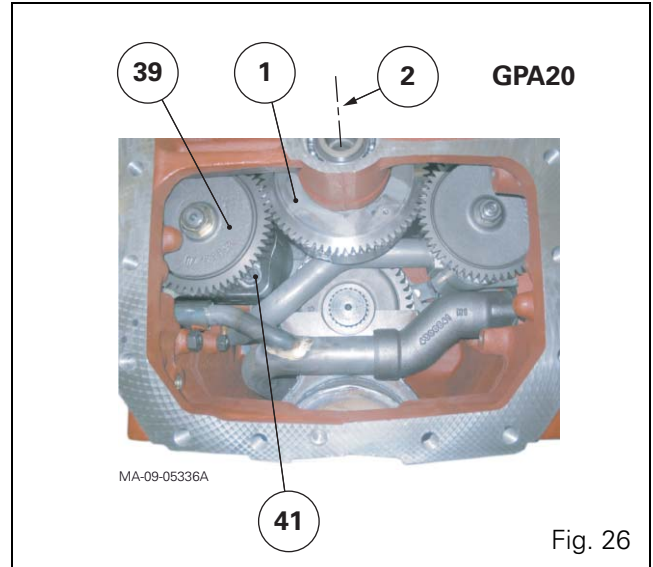
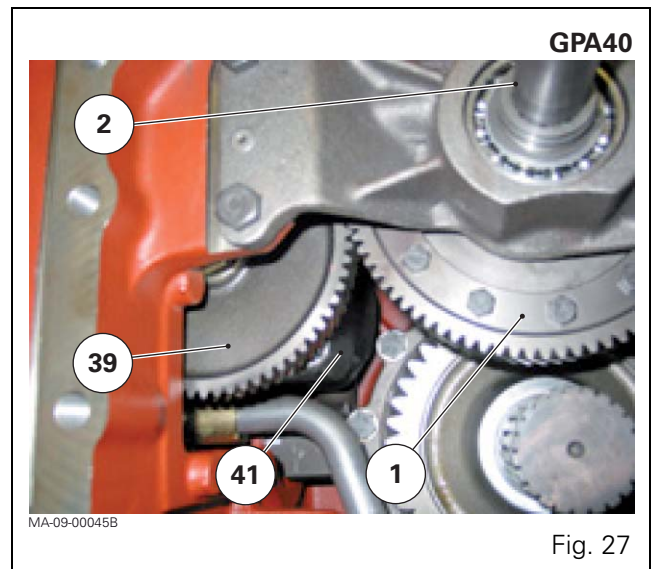

Fig. 26
Fig. 27
- the PTO clutch housing teeth (1) (GPA20 and GPA40) (Fig. 26, Fig. 27).
NOTE: The helical teeth of the gear (39) (GPA20 and GPA40) and its connected gear (Fig. 26, Fig. 27) is replaced by spur cut teeth.